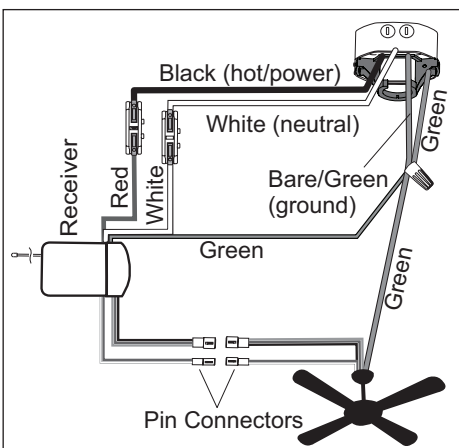

Figure 5.1
1. Make the following wire connections according to the diagram and these steps (Figure 5.1):